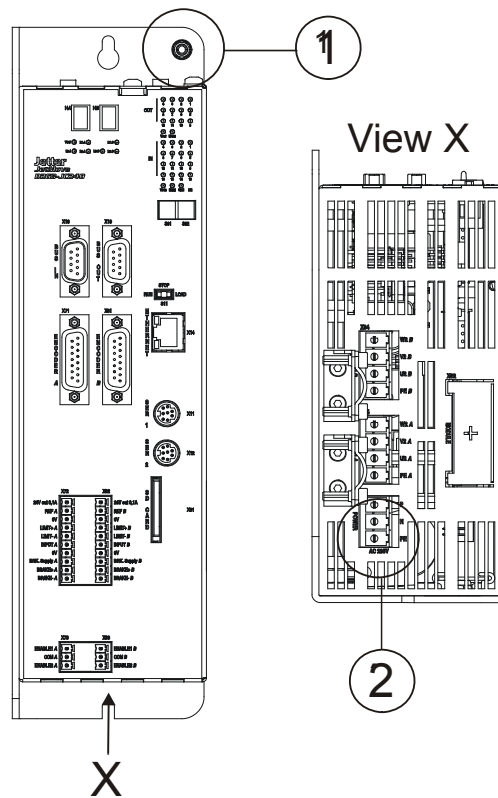

Abb. 1: Double Earthing
- Connect the protective conductor having a minimum cross-sectional area of 10 mm2 to the PE bolt on the upper side of the housing (1) or
- Connect the PE conductor having a minimum cross-sectional area of 10 mm2 to the PE bolt on the upper side of the housing (1) and the PE terminal X1 (2) (refer to Fig. 1).
- Connect the protective earth (PE) conductor to terminal X1.See Abb. 1 on Seite 16